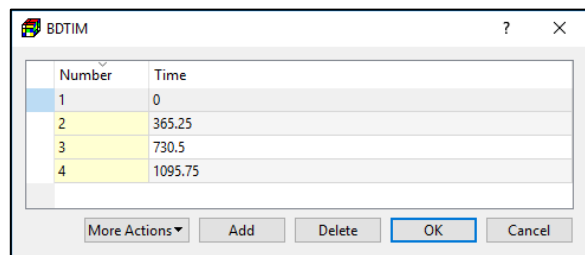

Figure 60. The BDTIM dialog box
- **Times of Specified Values (BDTIM):** Click the Edit button to open the BDTIM dialog box (Figure 60) where you can edit an array of simulation times at which the flow or head values can be defined. The array of simulation times applies to the entire package. The features of the BDTIM dialog box are as follows: